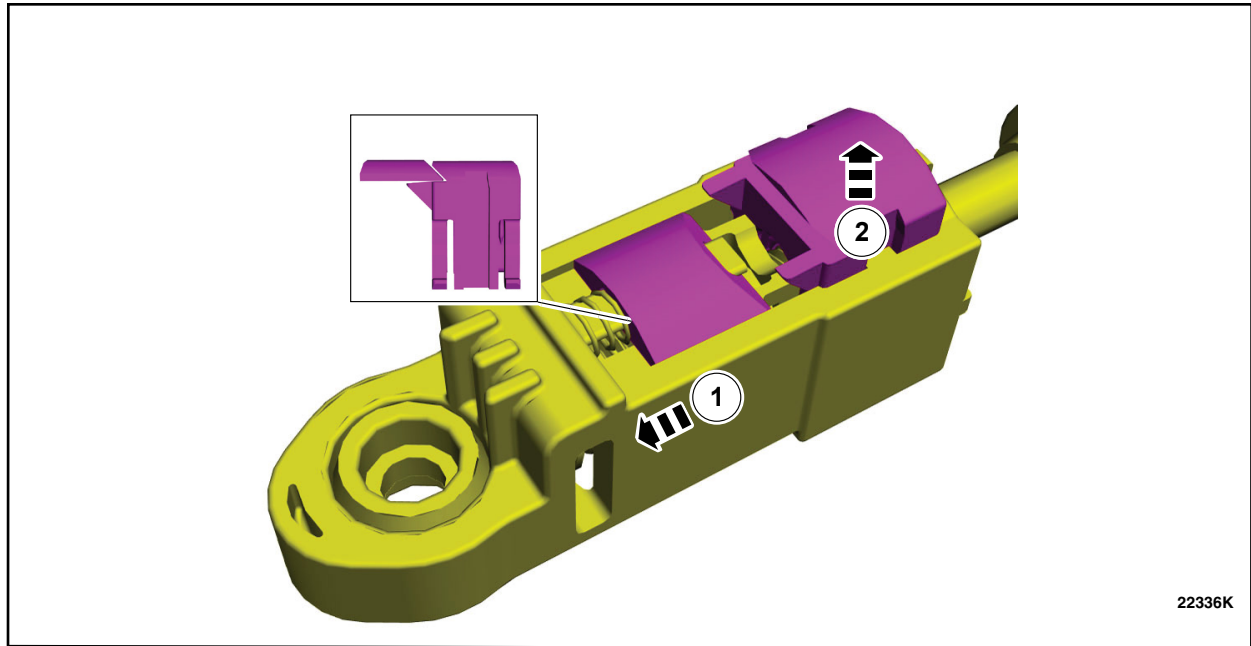

FIGURE 10
11. Release the selector lever cable adjuster lock. See Figure 10.